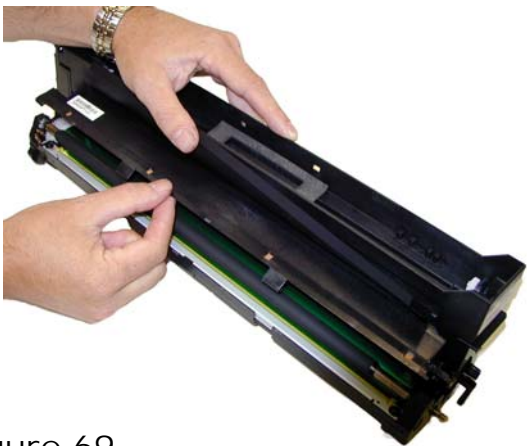

Figure 69
44) Install the PCR cover by rolling the top of the cover so the back tab locks in place. Roll the cover down until the front two tabs lock. See **Figure 69**